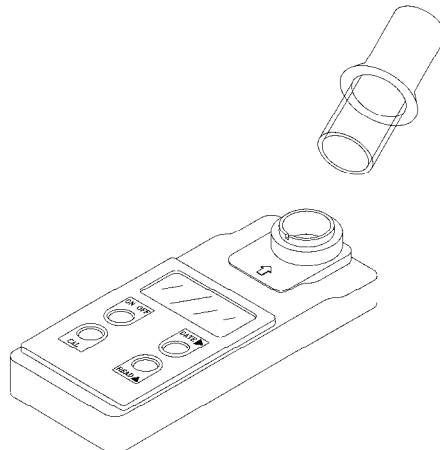

Figure 3. Correct Position of Cuvet Cap in Turbidity Meter
9. Place the cuvet into the measurement cell. Make sure that the notch on the cap is positioned securely into the cover. Line up the arrow on the cap with the arrow on the turbidity meter. See Figure 3.